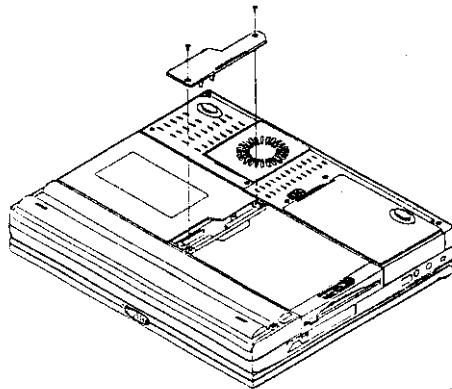

Figure 2-13
4. Remove the two screws to release the cover (Figure 2-13).